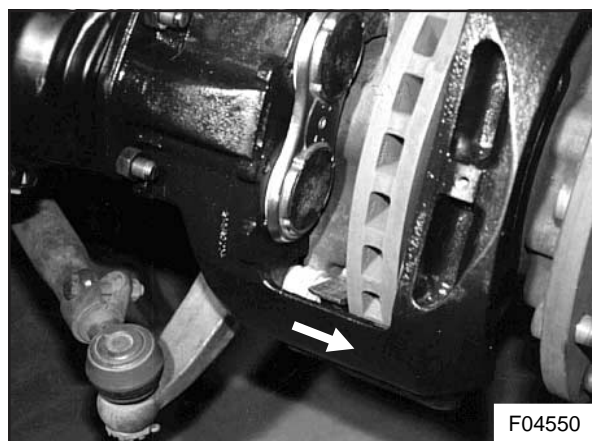

Figure 23 : Sliding the caliper outwards
2. With your hands pull the caliper to the wheelside as indicated in Figure 23, until the outer brake pad can be fitted.